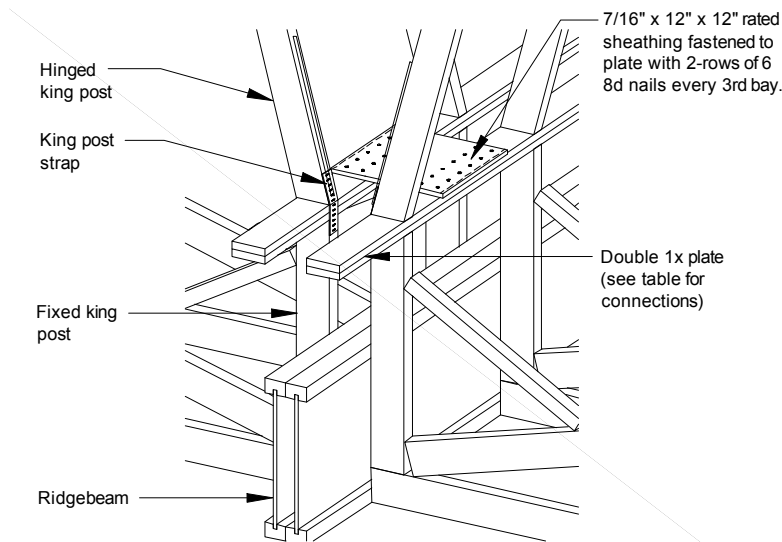

Figure 26. King Post and Plate Connections
4. **Secure king posts.** Position the hinged king posts atop the fixed king posts or against the wooden stop (**Figure 23**). The king posts are hinged to the underside of the hinged-truss top chord. Position them as needed to level the roof, aligning each hinged king post with the king post directly beneath it, and securing in place using straps, sheathing and fasteners as shown in **Figure 24**, **Figure 25**, **Figure 26** and **Table 15** and **Table 16**.